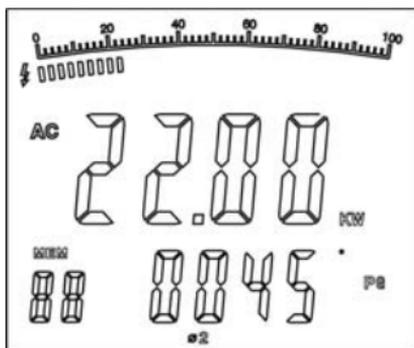

Figure 9
2. After record the current power measurement value of the first phase, then press **SEL** to choose $\text{Ø}2$, The double display shows the value of active power kW and PG of the second phase 2. as figure 9